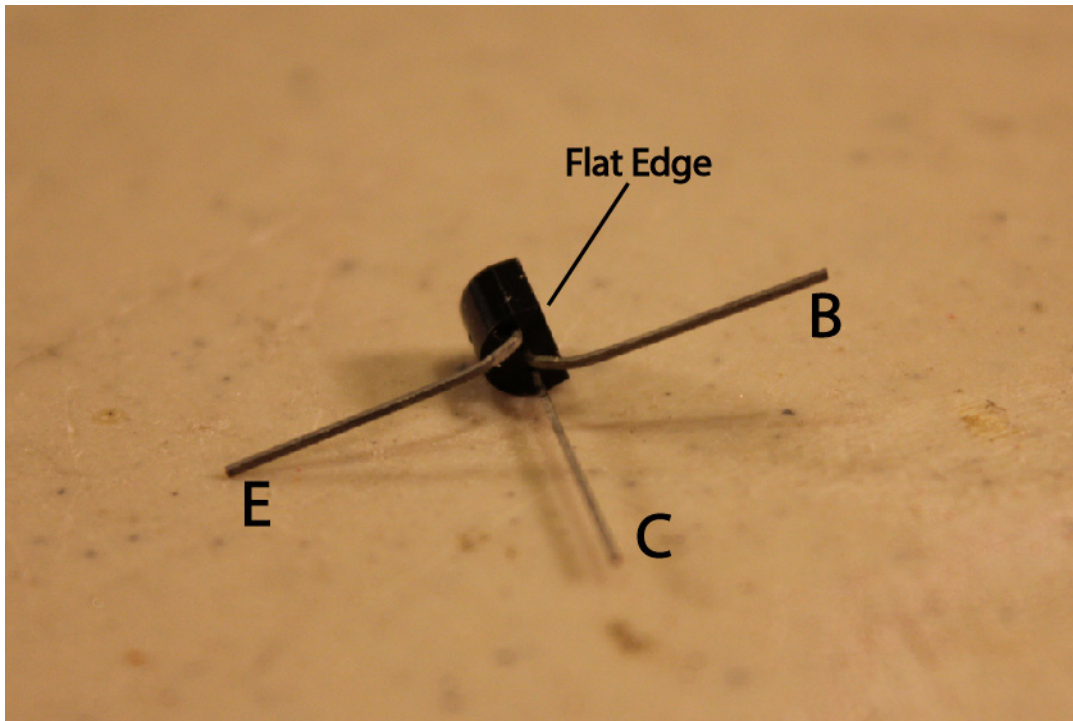

Figure 16
- Each lead from the transistor will be soldered to the three different square so you will have to bend the leads accordingly. (See figure 16)